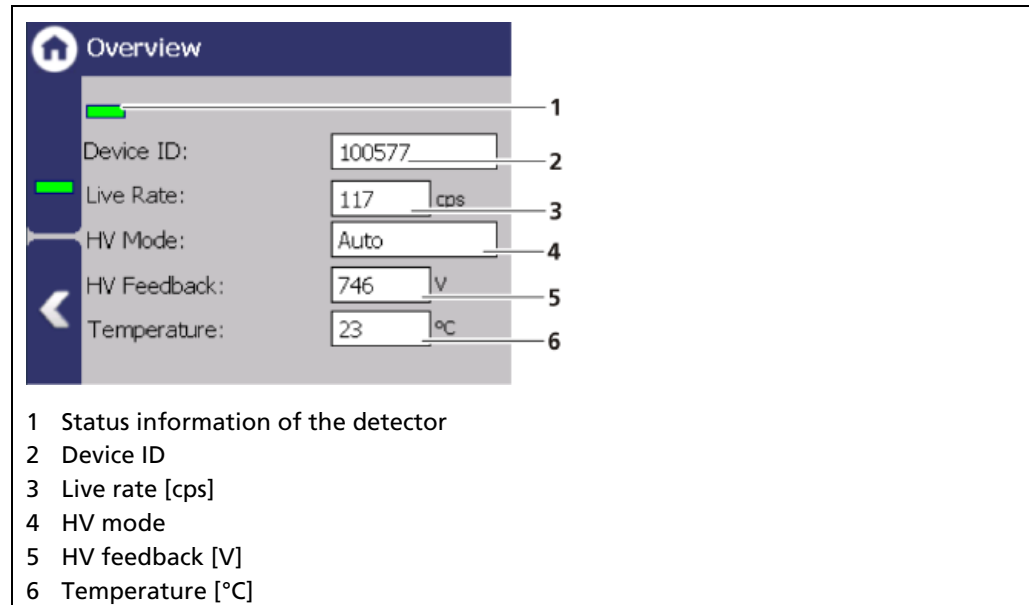

Fig. 47 Overview Detector Information
A green bar appears with error-free status of the detector (Fig. 47, item 1).
Device ID	Shows the ID (Fig. 47, item 2) of the detector.
Live Rate	The "Live Rate" (Fig. 47, item 3) displays the current, unfiltered count rate.
HV Mode	In the field "HV mode" (Fig. 47, item 4), the HV mode is displayed, which is chosen under Device Setup   Setup   Sensors   NAME DETECTOR   High Voltage   HV Settings .
HV Feedback	The field "HV Feedback" (Fig. 47, item 5) displays the actual measured value in volts.
Temperature	The field "Temperature" (Fig. 47, item 6) indicates the current temperature of the detector in C°.